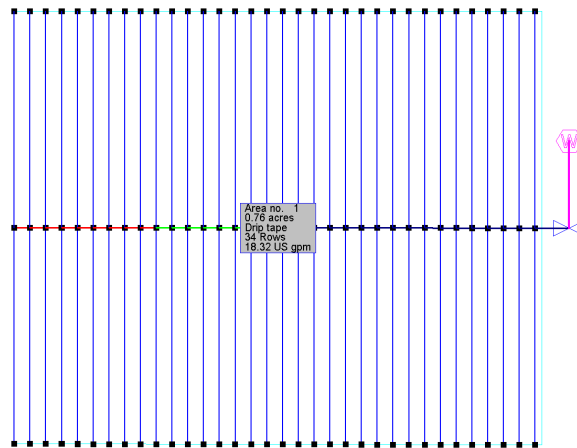

Figure 4-36
22. Now select **Modify/Select Object** and click on the label. Select **Modify/Move** and move the label to below the valve. See Figure 4-36.